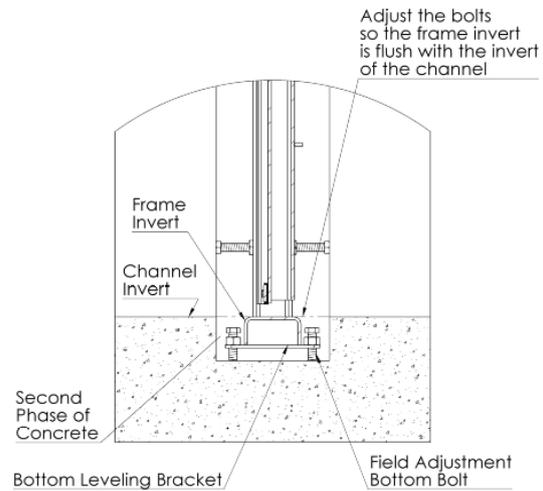

Figure 5
- Align the unit vertically and make sure that the frame is flush with the invert of the channel. Adjust the bolts on the "Bottom Leveling Brackets" if applicable (See Figure 5).